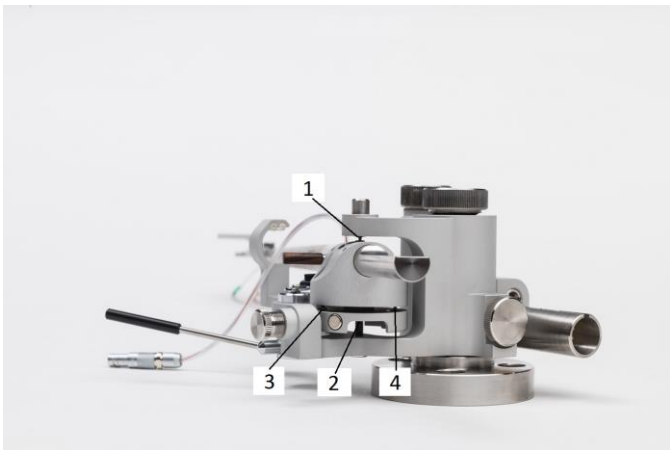

Figure 5
- g) Check if vertical and horizontal axis bearings [1], [2] and [3], [4] are in correct positions (Figure 5).